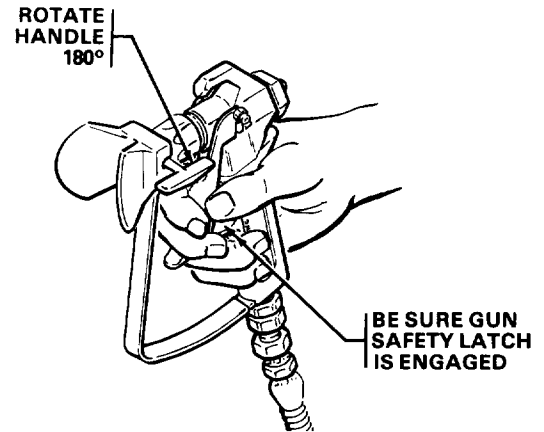

Fig 6
- If the spray tip does clog, release the gun trigger, engage the gun safety, and rotate the RAC III handle 180°. See Fig 6.